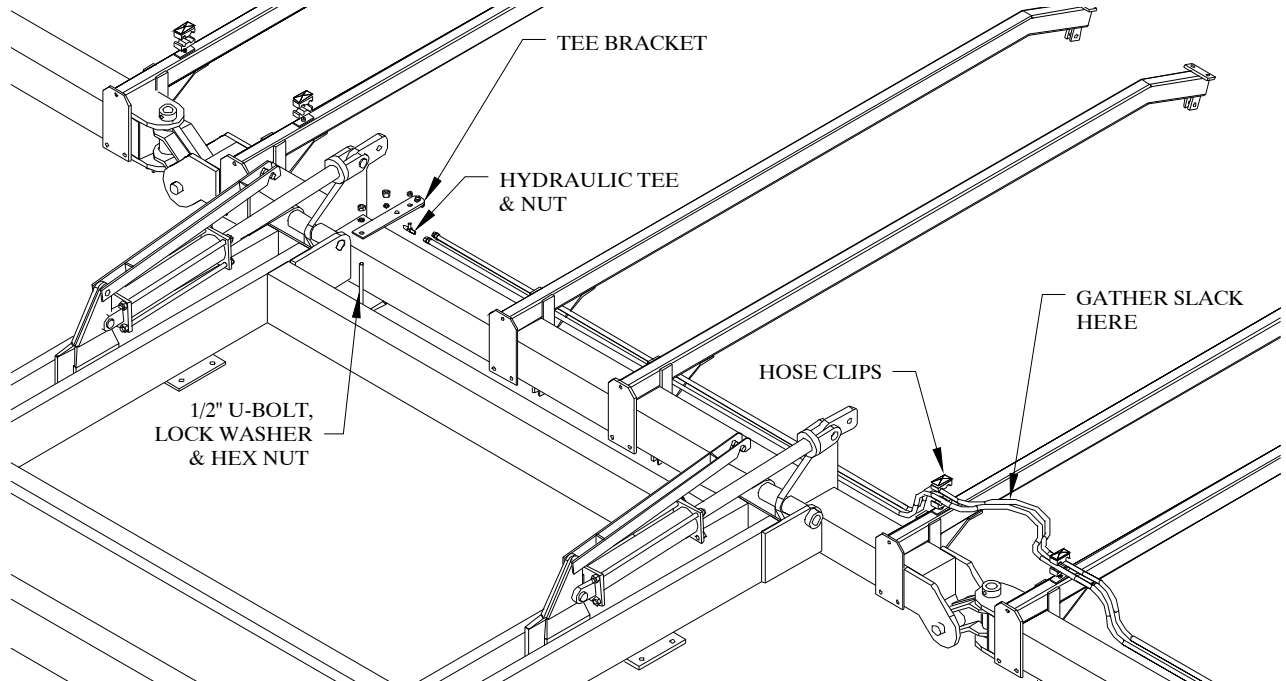

Figure 22
5. Bolt the hydraulic hose tee post to the center bar 6" from the center bar hinge plate as shown in Figure 22. Use a 1/2 x 6 x 7 3/4 U-bolt, lock washers and hex nuts.